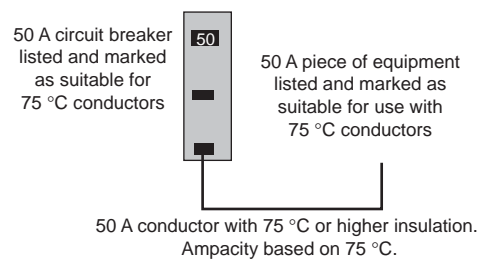

Figure 5: Conductors with Higher Temperature Ratings
- c. Conductors with higher temperature ratings, provided the equipment is listed and identified for use with such conductors (see Figure 5).